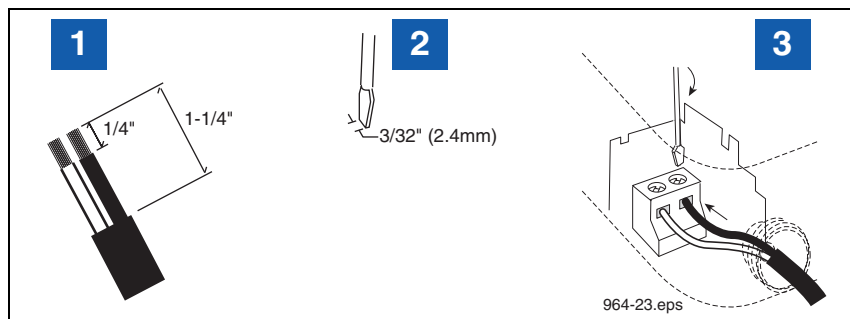

Figure 29. Connecting Input Wiring to Transmitter Terminal Blocks
4. Strip back cable jacket and wires as shown in Figure 29.
LEGEND FOR NUMBERED BOXES IN Figure 29
7. Strip back cable jacket and wires as shown in Figure 29.
5. Slide the nut over the cable. Choose the correct size bushing and slide it over the cable. Dress the cable jacket according to the dimensions in Figure 29. Insert the cable into the appropriate opening at the bottom of the housing. Insert each wire into the appropriate terminal and tighten. Leave a small amount of slack in each wire. Slide the bushing into the bottom of the housing. Hand tighten the nut.
9. Slide the nut over the cable. Choose the correct size bushing and slide it over the cable. Dress the cable jacket according to the dimensions in Figure 29. Insert the cable into the appropriate opening at the bottom of the housing. Insert each wire into the appropriate terminal and tighten. Leave a small amount of slack in each wire. Slide the bushing into the bottom of the housing. Hand tighten the nut.